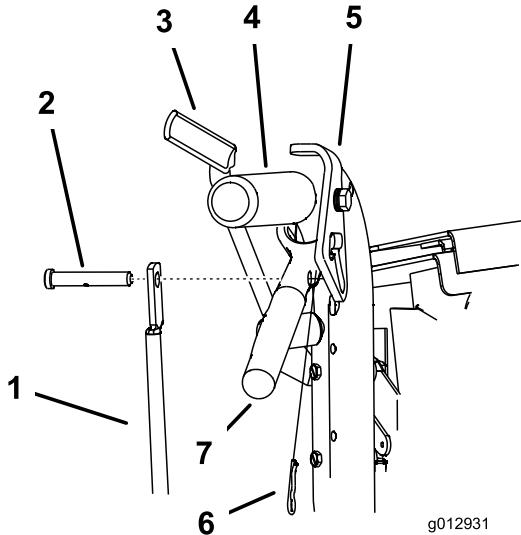

Figure 44
1. Remove the hairpin cotter pins and clevis pins from the drive levers and neutral locks (Figure 44).